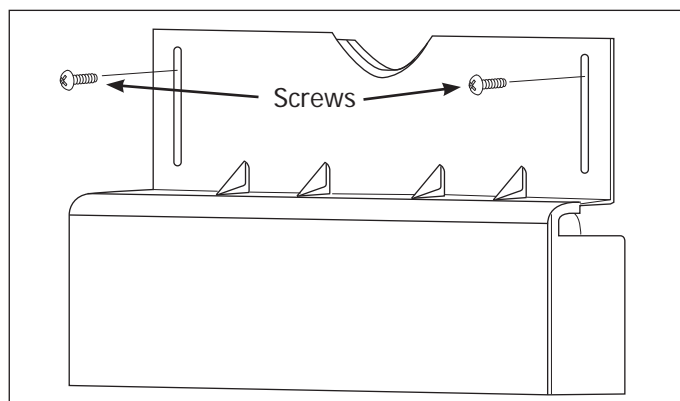

Figure 2-23.
3. Use the 2 lower screw holes for installations over 33-1/2" high. (See Figure 2-23)